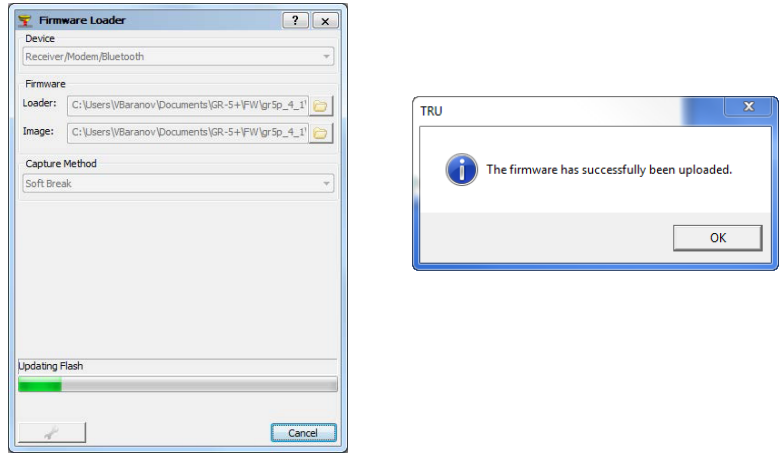

Figure 21: Finishing Firmware Upload
8. Click **OK** to continue uploading new firmware to the receiver (see Figure 21).